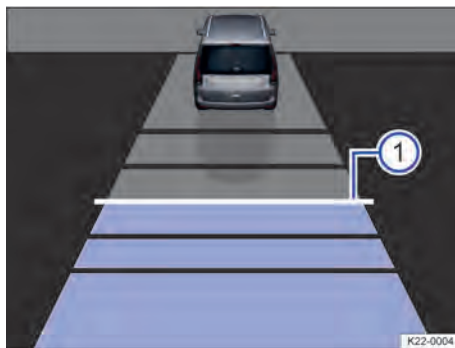

Fig. 105 On the display of the digital instrument cluster: set distance ①, Adaptive Cruise Control is controlling the vehicle (illustration).
The instrument cluster display shows the chosen distance setting → Fig. 105 ①. Note the country-specific regulations regarding the minimum distance.